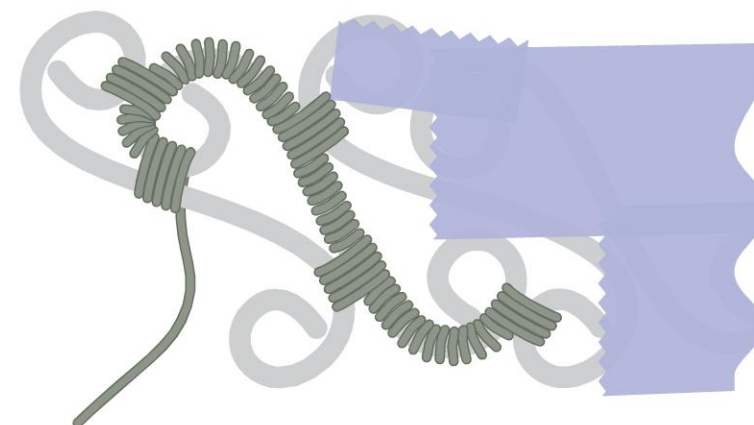

figure 6
- 15 Remove or add tape as necessary. Coil the small loop up to where it touches the next scroll, then coil the loop and scroll together (Figure 6).